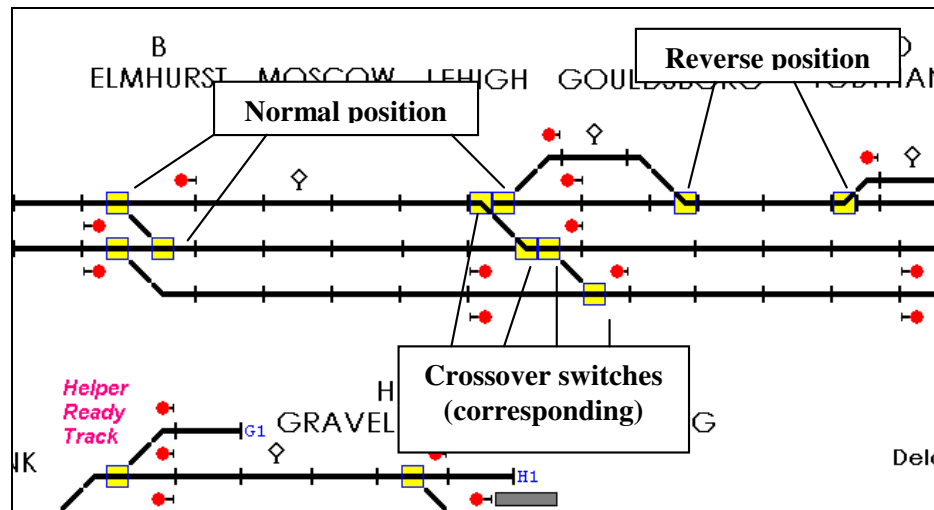

Figure 15 - Switch Normal and Reverse
Switches allow the dispatcher to change the routes of trains. Switches have two positions, which are called normal and reverse. The normal position is for a straight move through the switch (see Figure 15). The reverse position is for movement at an angle to the original course.
- ◆ The corresponding switch cannot throw. Two switches can be tied together when they are configured as a crossover (see Figure 15). If you throw one switch, the corresponding switch will automatically throw to the same position. If the corresponding switch cannot throw because it is occupied by a train or has a cleared route over it, the switch that was requested to throw also will not throw.